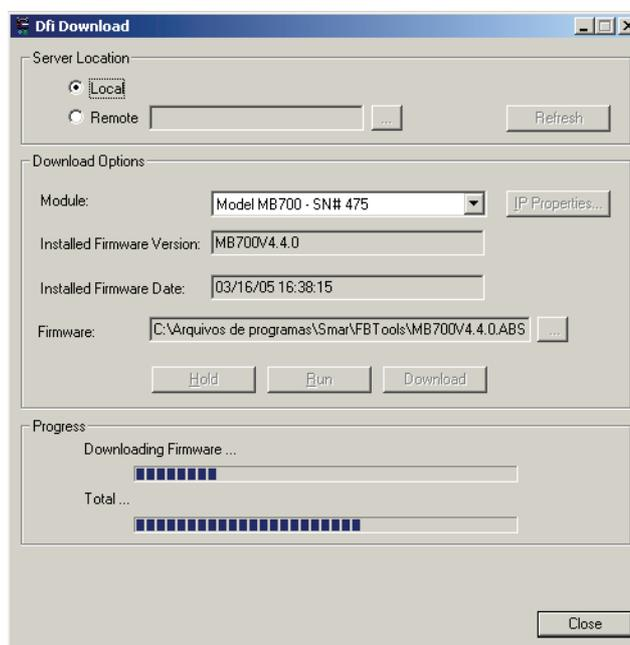

Figure 3.9 – Dfi Download – Progress Screen
21. During the download, it shows the progress indication bar. See Figure 3.9.